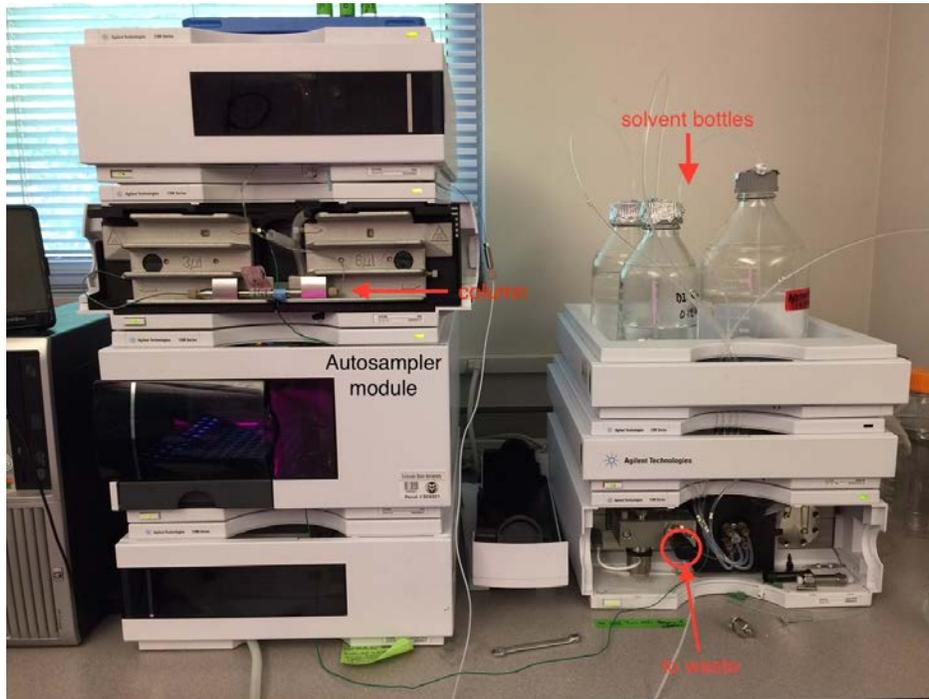

Figure 2. The HPLC as it appears during normal use.
- Loosen the “to waste” knob (Figure 2) so that flow (and any initial bubbles) will be directed to the waste jug.